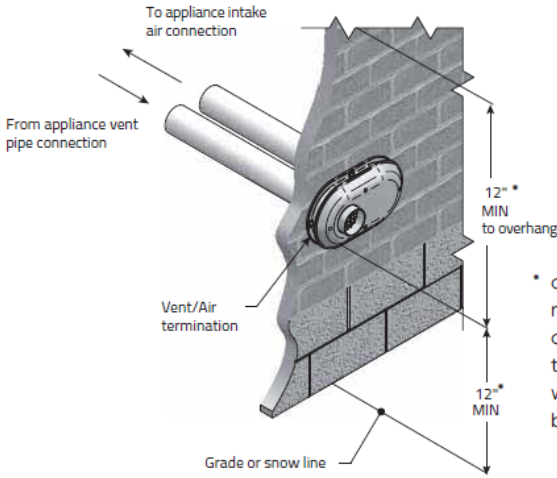

Fig. 10
When locating the penetration of the vent and air pipe, ensure the termination is properly oriented as shown in Figure 11 and ensure that it maintains minimum clearance requirements as shown in Figure 10. For multiple vent terminations, ensure that a minimum clearance of 12 in (30 cm) is maintained between edge of air inlet and adjacent vent outlet and that all vent pipes and air inlets terminate at the same height to avoid the recirculation of flue gases and the possibility of causing severe personal injury, death, or substantial property damage (see Figure 13).
2. Slide both the intake and vent pipe through the holes. Solvent weld both pipes to the base of the vent termination kit (see Figure 10).